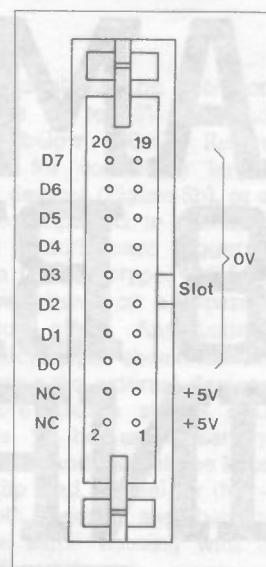

Figure 3. Header Plug.
0.1 μ F decoupling capacitors. Then fit PL1 and the IDC cable of your choice, with the stripe on the cable at the pin 1 end of the legend! Lastly, fit the link previously selected from Table 1, and proceed to solder all connections and check the PCB for dry joints, short circuits, etc. Fit all IC's into their sockets, noting correct orientation. Figure 3 shows PL1 pin connections looking into the connector, onto the pins.